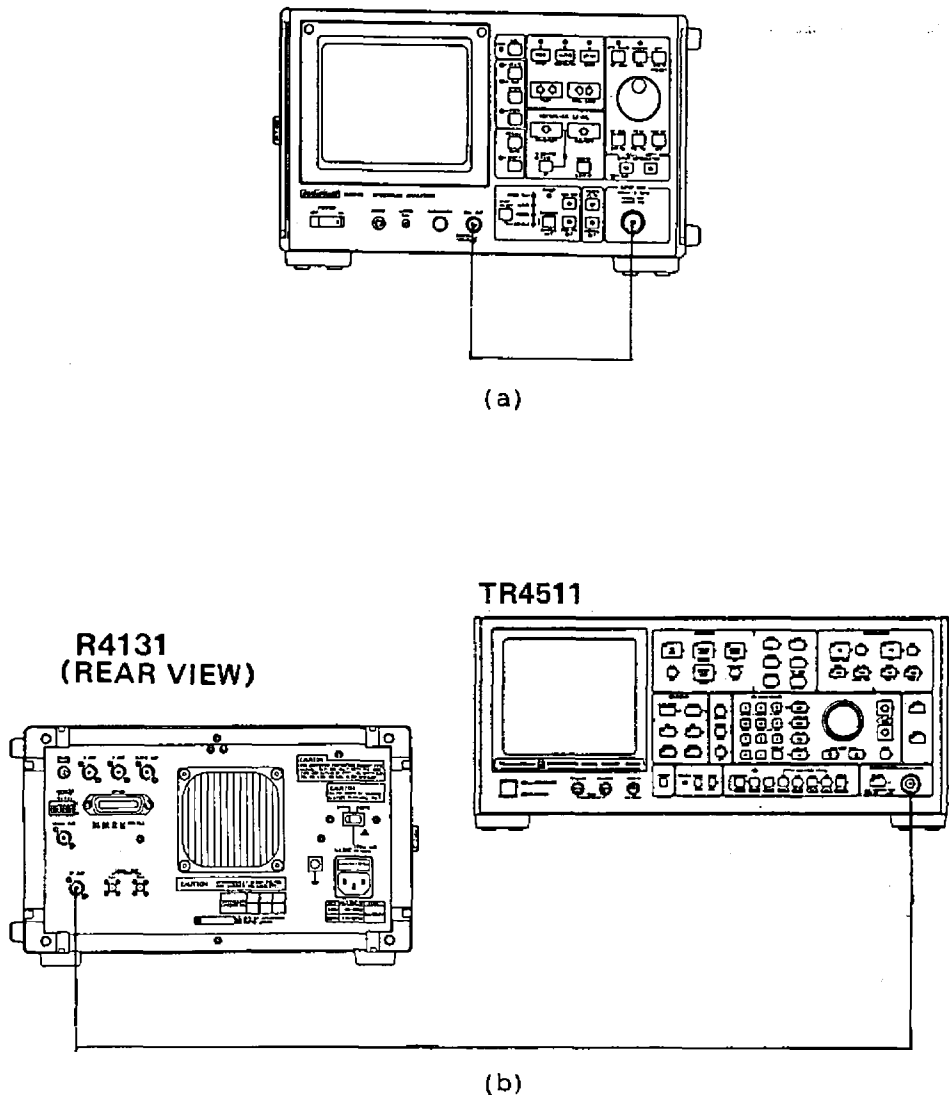

Figure 11-12 Resolution Bandwidth Accuracy Test Setup
(2) Procedure
- ① Connect the calibration signal of the spectrum analyzer to the INPUT connector as shown in Figure 11-12 (a).
- ⑧ In testing resolution bandwidths 3 kHz to 1 kHz, remove the top cover of the spectrum analyzer and apply 3.58 MHz, -20 dBm signals to the IF FILTER IN connector from the synthesized signal source. (See Figure 11-12 (b).)
- ⑨ Set the spectrum analyzer resolution bandwidth to 3 kHz and adjust the output frequency of the synthesized signal source for the maximum waveform peak by varying the output frequency at the 10 Hz place.
- ⑩ Adjust the output level of the synthesized signal source to bring the spectrum analyzer display level to 1.5 divisions above the horizontal axis in the center of the display screen.
- ⑪ Reduce the output frequency of the synthesized signal source until the waveform peak displayed on the display screen coincides with the horizontal axis in the center of the display screen. Record this output frequency as f1.
- ⑫ Next, increase the output frequency of the synthesized signal source until the waveform peak rises once above the horizontal axis in the center of the display screen, and then correspondingly falls. Record this output frequency as f2.
- ⑬ Determine the 3 dB bandwidth by calculating f2 minus f1. Check that this value falls between 2.4 and 3.6 kHz (3 \pm 0.6 kHz or less).
- ⑭ Test resolution bandwidths 1 kHz according to Table 11-5. Keep records of the resultant 3 dB resolution bandwidth values for use in the resolution bandwidth selectivity test described in Section 11.8.
- ④ Turn the AMPTD CAL control to bring the signal peak to the top graticule on the display screen.
- ⑤ Turn the TUNING dial to position the 60 dB point for the best reading.
- ⑥ Measure and record the 60 dB bandwidth. Check that the ratio of the 60 dB bandwidth to the 3 dB bandwidth measured in Section 11.7 is 15 or less.
- ⑦ Repeat steps ③ to ⑥ for resolution bandwidths of 300 kHz to 10 kHz as well.
- ⑧ Connect the output of the synthesized signal source to the spectrum analyzer IF FILTER IN connector as shown in Figure 11-12 (b).
- ⑨ Set the output frequency of the synthesized signal source to 3.58 MHz (CW), -20 dBm.
- ⑩ Adjust the output frequency of the synthesized signal source for a maximum reading on the R4131 display screen, and set the signal to be on the reference graticule.
- ⑪ Increase the output frequency of the synthesized signal source until the signal level is reduced 60 dB (6 graticules).